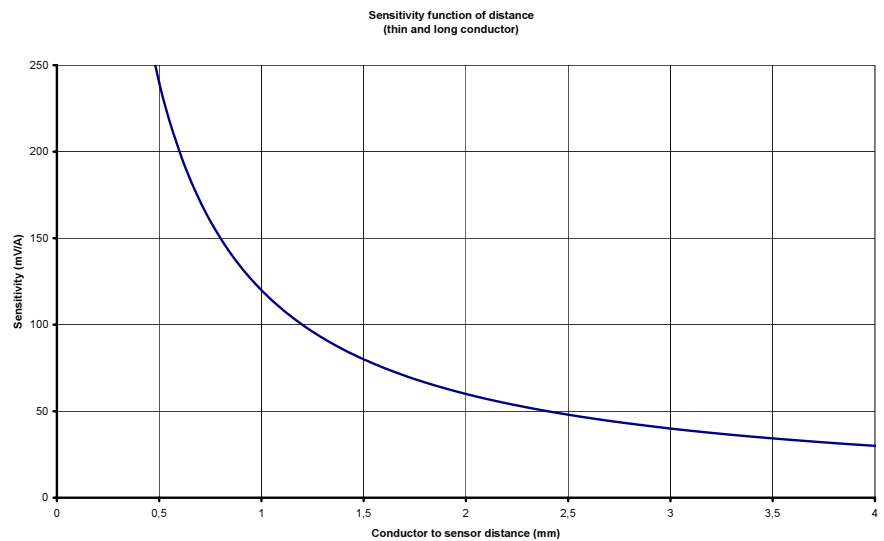

Figure 3: Minisens sensitivity versus the distance between the sensing elements and the primary conductor
**Figure 3** shows how the output voltage decreases when  $r$  increases. Note that the sensitivity also depends on the primary conductor shape.